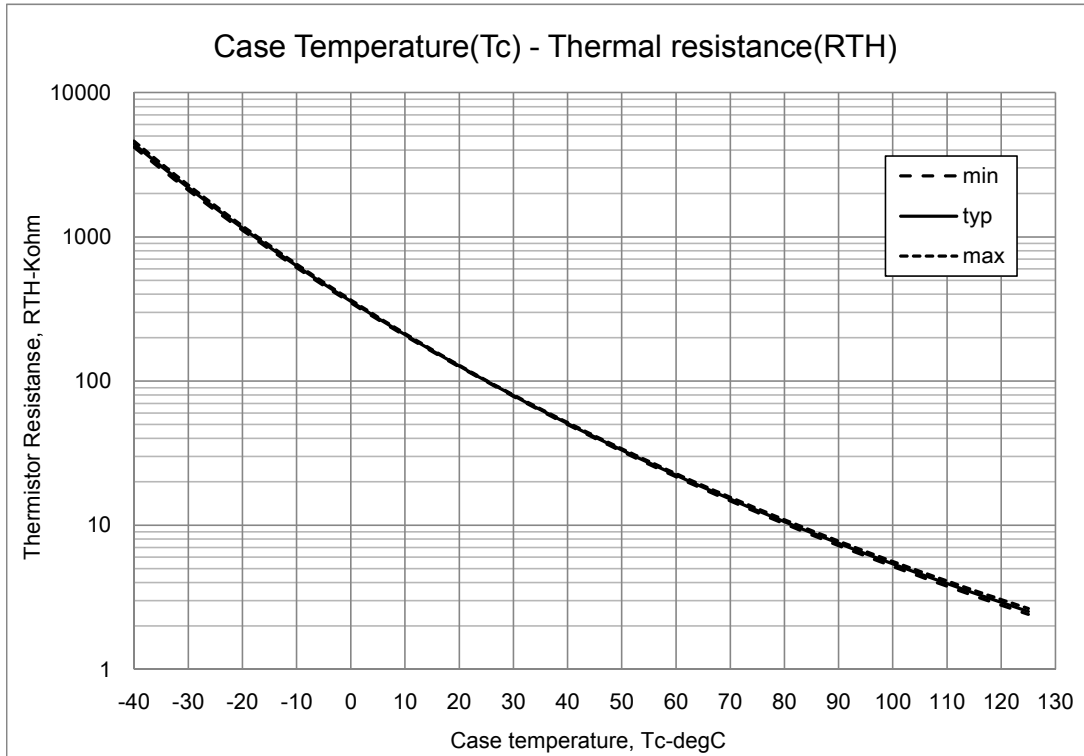
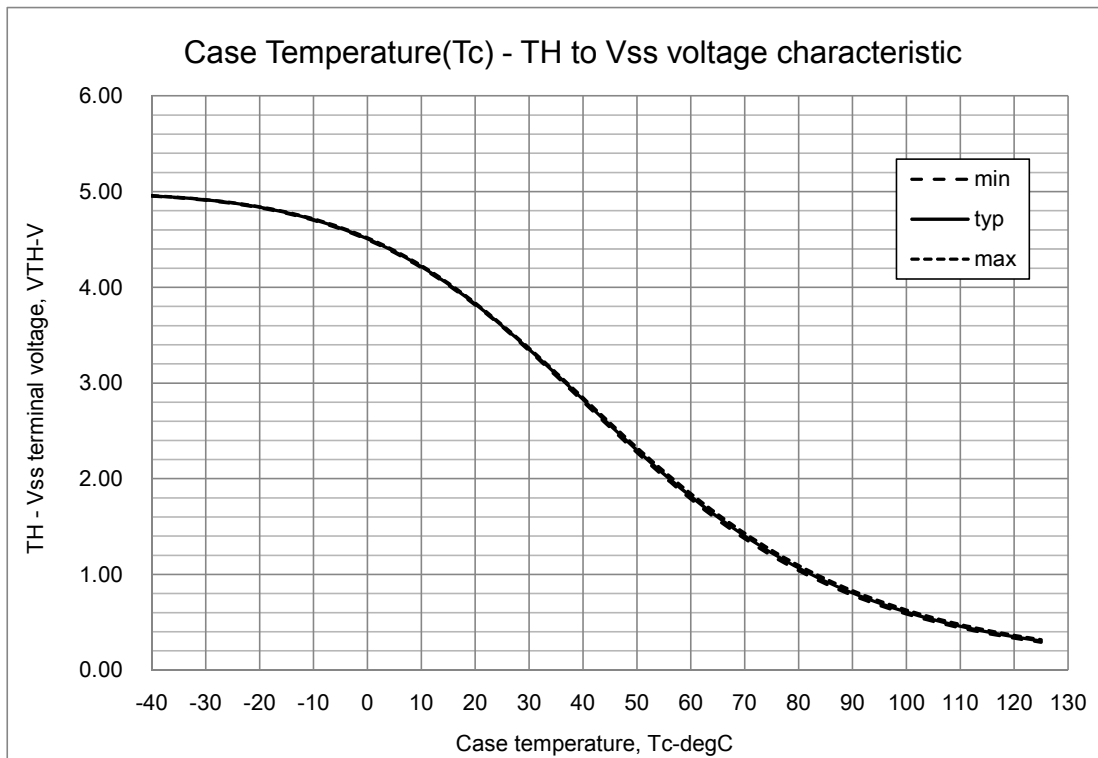

Fig.10 Variation of thermistor resistance with temperature
Fig.11 Variation of thermistor terminal voltage with temperature
5. Inside the IPM, a thermistor used as the temperature monitor for internal substrate is connected between V_{SS} terminal and TH terminal therefore, an external pull up resistor connected between the TH terminal and an external power supply should be used. The temperature monitor example application is as follows, please refer the Fig.10, and Fig.11 below.